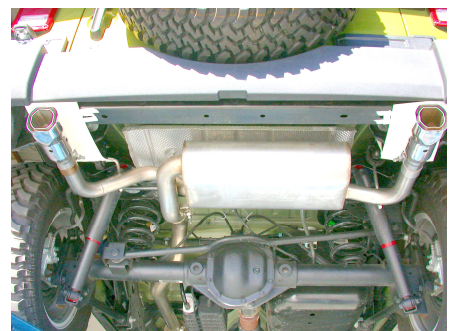

Figure 6
2. Place a clamp over the expanded end of the muffler assembly and set it into position as shown in figure 6 making sure to install the hangers into the rubber isolators. Do Not tighten the clamp.
3. Place a clamp over the expanded ends of the tip assemblies and set them into position as also shown in figure 6. Do Not tighten the clamps.